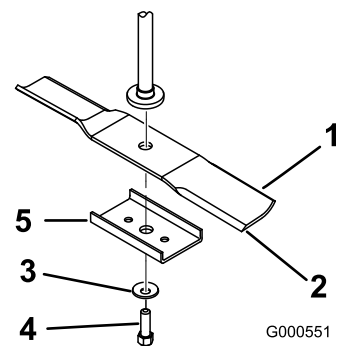
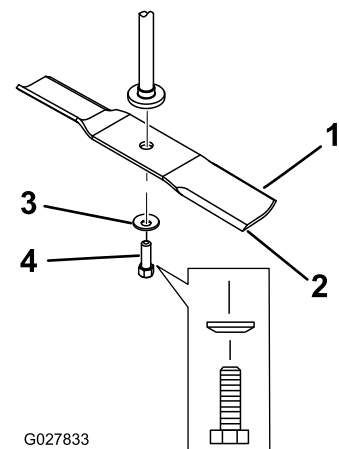

Figure 53
Figure 54
2. Remove the blade stiffener (32-inch decks only), blade bolt, the curved washer, and the blade from the spindle shaft (Figure 53 and Figure 54).
1. Install the blade onto the spindle shaft (Figure 54).
2. Install the blade stiffener (32-inch decks only), the curved washer (cupped side toward the blade), and the blade bolt (Figure 54).